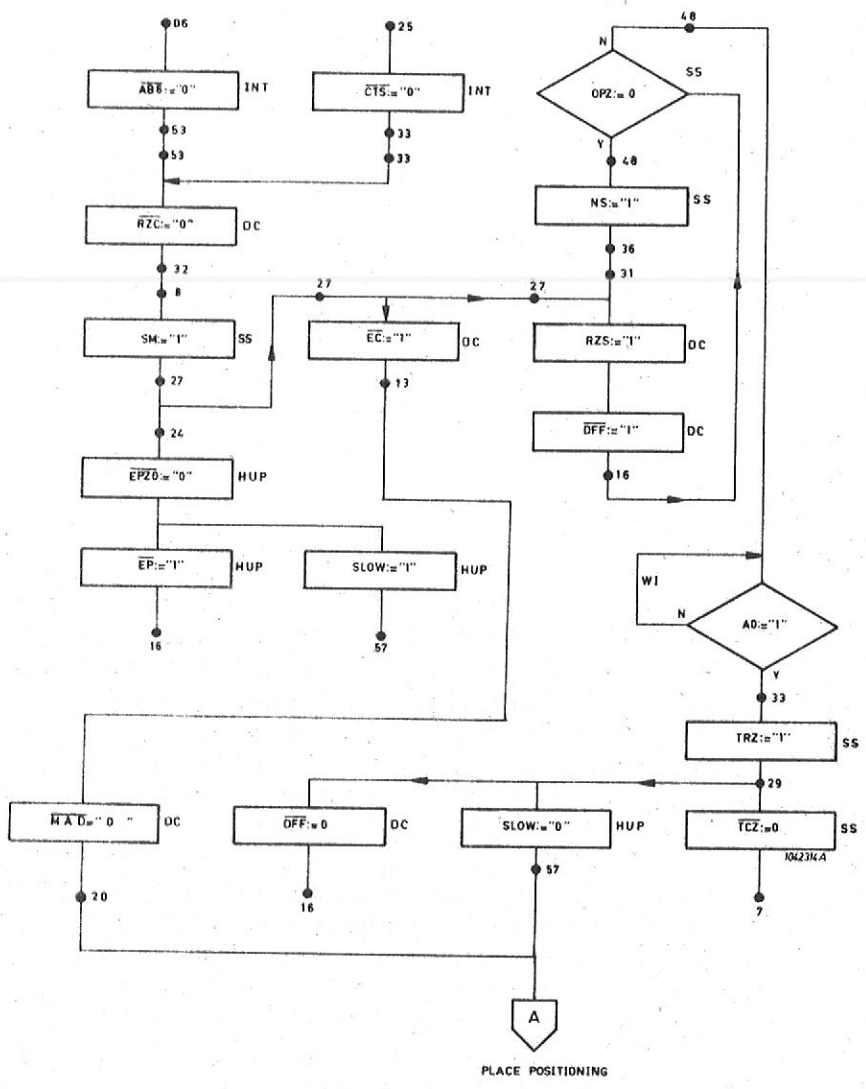

Figure 3-25 RETURN TO ZERO SEEK
7.8 RETURN TO ZERO SEEK (Figure 3-25)